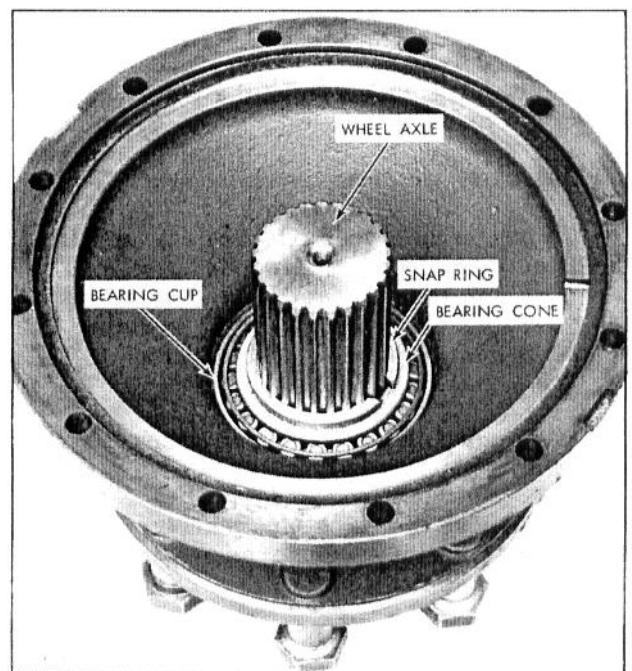

Fig. 32 - Drive Cover and Axle Assembly
6. Remove the split ring, (or snap ring) from the wheel axle groove. Refer to Fig. 32.